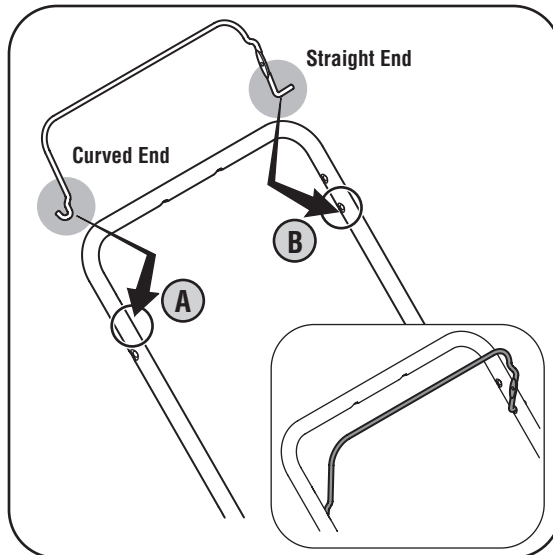

Figure 3-6: Install the blade control handle (if needed).
1. Insert the curved end of the blade control handle into the right hole, Step A Figure 3-6. Squeeze the handle in and insert the straight end of the blade control handle into the left hole of the upper handle, Step B Figure 3-6.